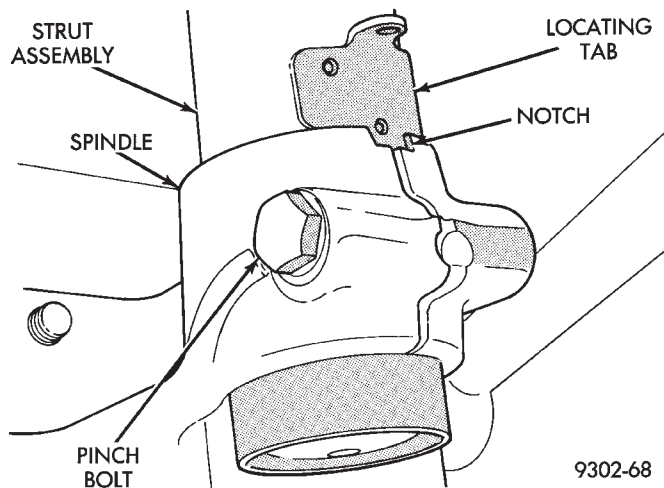

Fig. 13 Spindle Mounted To Strut Assembly
Then remove center punch from hole in spindle. Install spindle to strut assembly pinch bolt into spindle (Fig. 13). Torque spindle to strut assembly pinch bolt to 55 N•m (40 ft. lbs.).
(1) Install spindle onto the bottom of the strut assembly (Fig. 13). Push and or tap spindle assembly onto strut, until notch in spindle is tightly seated against locating tap on strut assembly (Fig. 13).